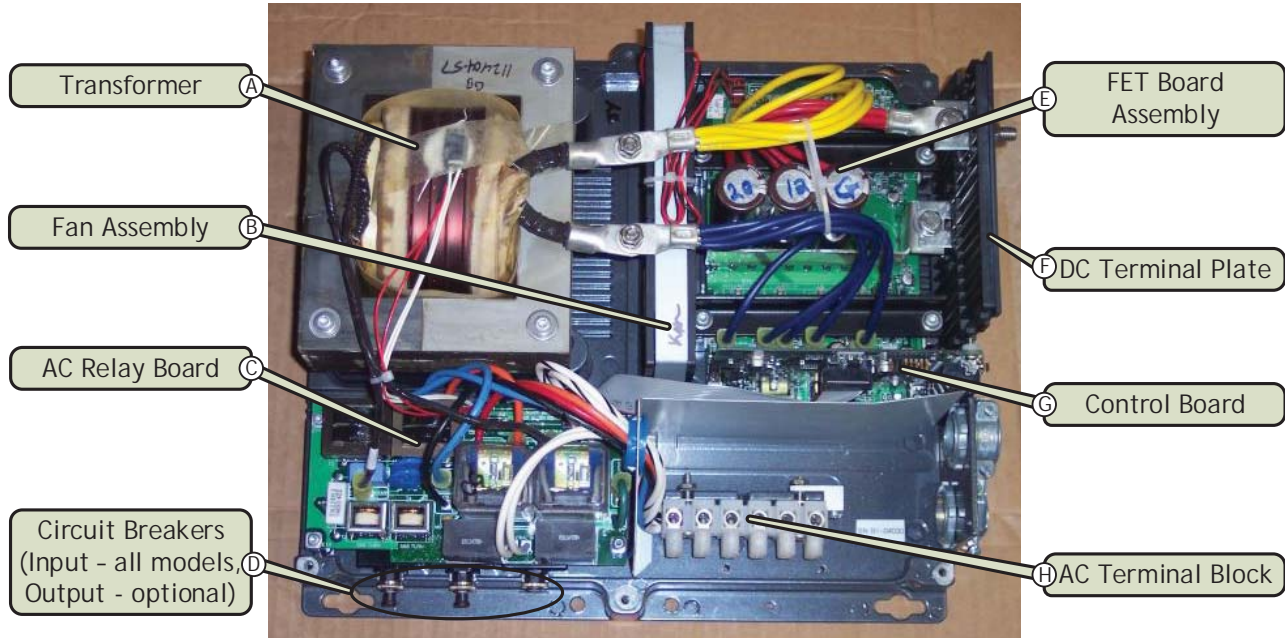

Figure 2, ME or RD Series Inverters – Internal Components
2. After removing the seven Torx screws, remove the top cover by lifting it straight up out of the DC terminal plate (Figures 2 and 3, Item F).